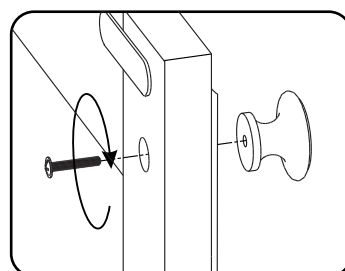

Figure 6
Attach Knobs to Doors (K) and (L) with Machine Screws. (See Figure 6)